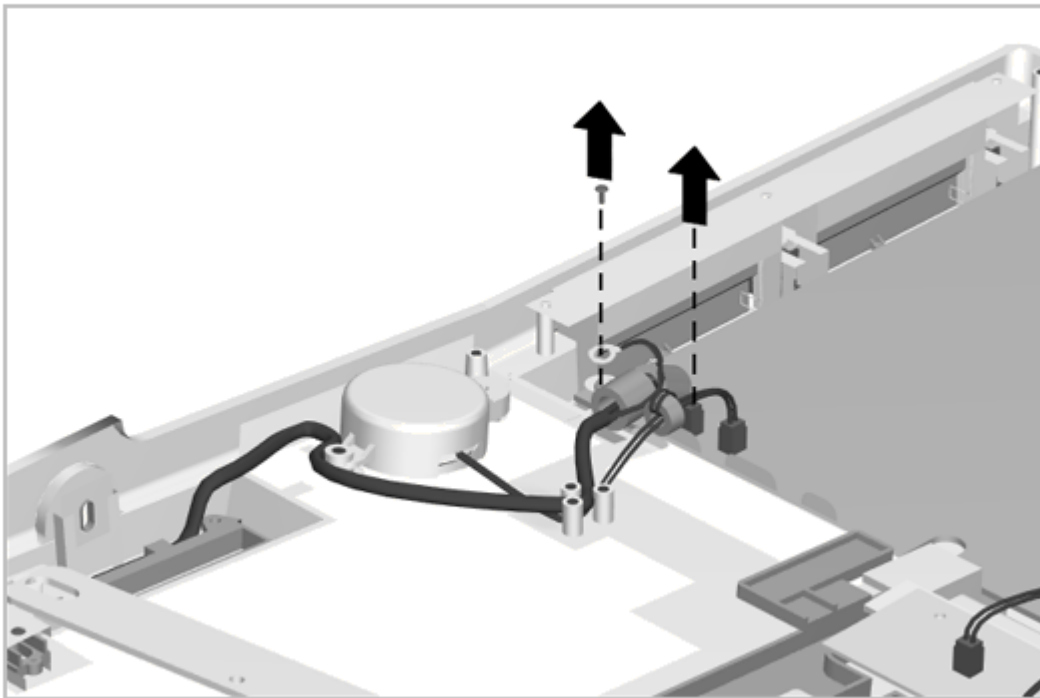

Figure 6-24. Disconnecting the Power Switch Board
3. Disconnect the power switch board cable and ground wire from the main board (Figure 6-24).